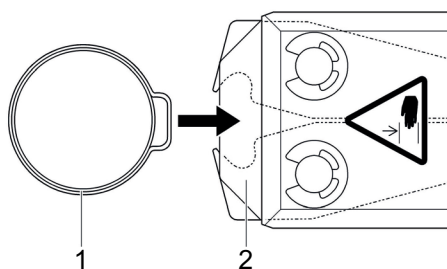

Fig. 14: Insert clamp
1. Insert the ear of an OETIKER clamp (Fig. 14/1) into the clamping range of the pincer head (Fig. 14/2).